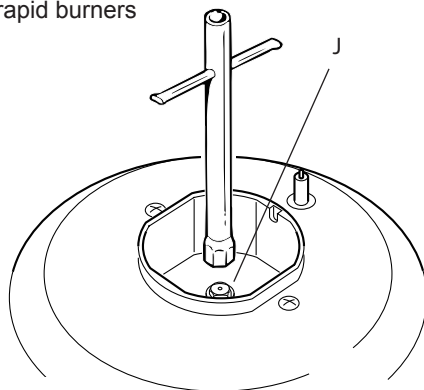

Fig. 7.5a
- Using a wrench, substitute the nozzle injectors “J” (figs. 7.5a - 7.5b) with those most suitable for the kind of gas for which it is to be used.